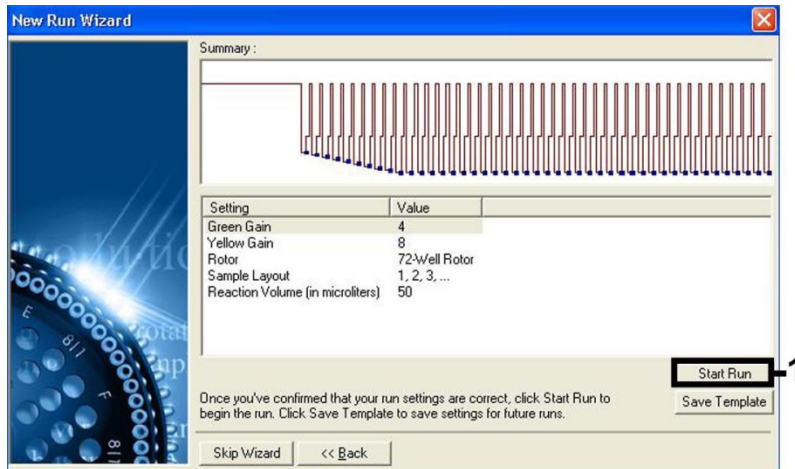

Figure 7. Starting the run.
The detection range of the fluorescence channels has to be determined according to the fluorescence intensities in the PCR tubes. Click **Gain Optimisation** in the **New Run Wizard** dialog box to open the **Auto-Gain Optimisation Setup** dialog box (see Step 6 and Figure 7 in the protocol sheet *Settings to run artus QS-RGQ Kits*).
**Note:** The gain values determined by the channel calibration (or manually assigned) are saved automatically and are listed in the last menu window of the programming procedure (Figure 7).